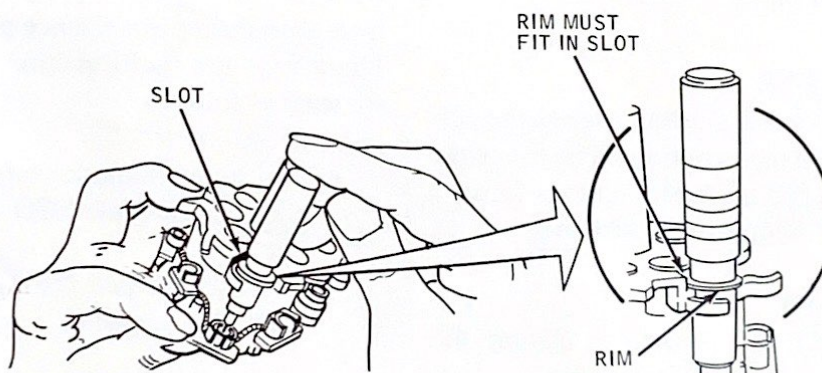

Figure 1-5. Loading Pens
3. Insert the pen into the turret as shown in Figure 1-5. If liquid ink pens are used, it is necessary to change the turret pen caps. Refer to the procedure at the end of Chapter 6 for changing turret pen caps.
5. Move the pen cap into the turret pen jaws and slide the rim into the slot as shown in Figure 1-5. If the pen is loaded correctly, the rim should rest on top of the jaws.